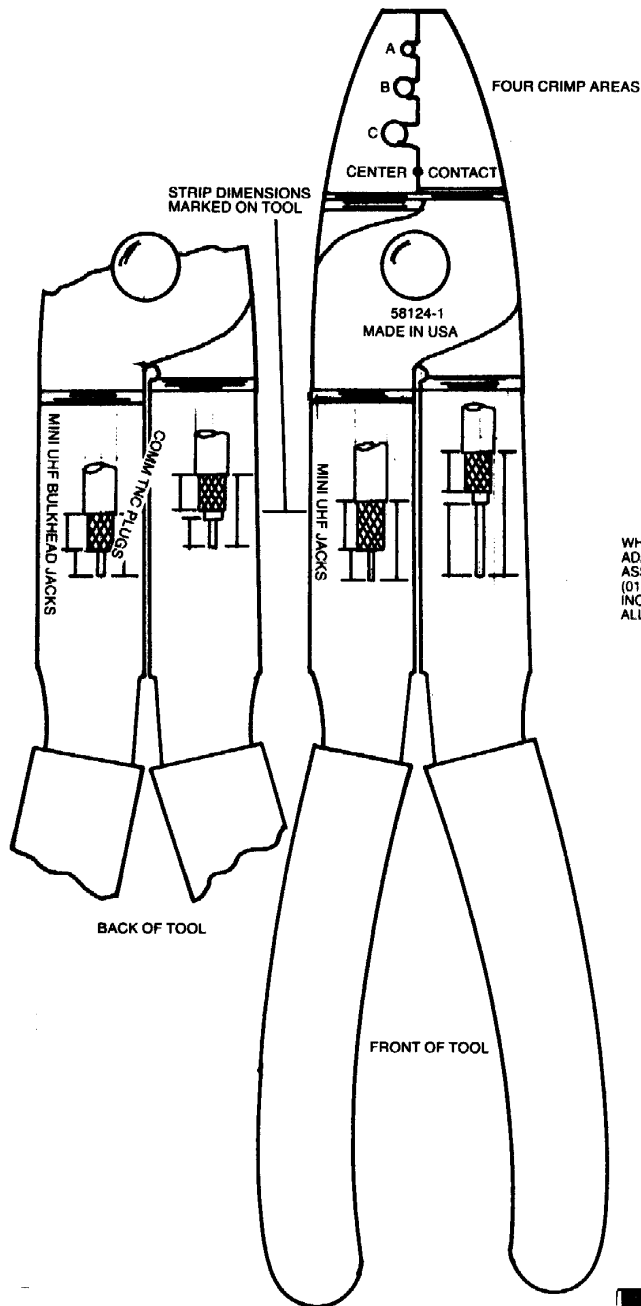
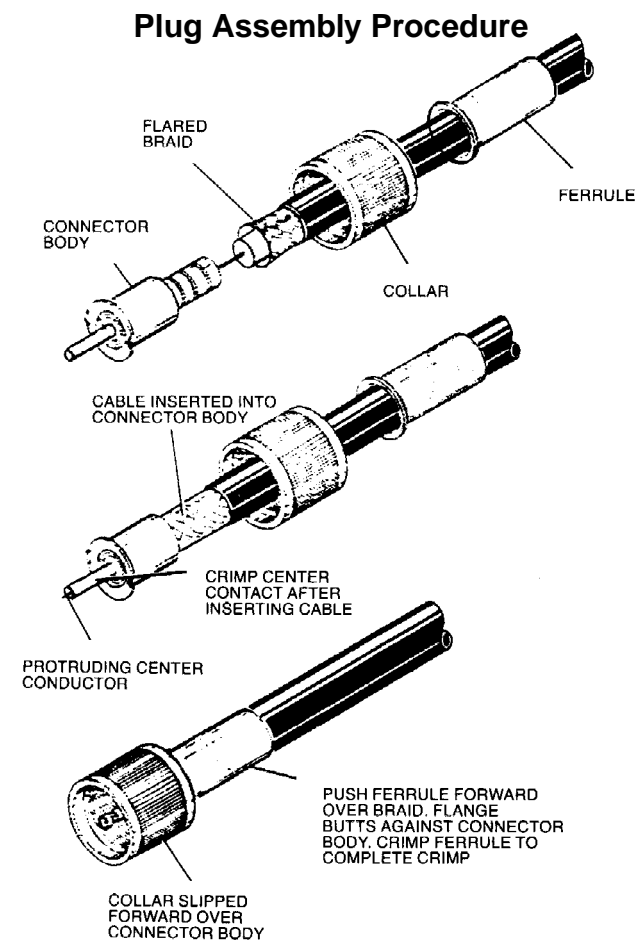

Figure 10.
Figure 12.
Use Motorola hand tool part #66-80388A26. Refer to Figure 10. A deluxe ratchet type tool is available; order part #66-80334B40.
1. Slip the ferrule and collar onto the cable. Refer to Figure 12.
3. Insert the stripped cable into the plug body until the conductor is exposed (front end) and dielectric bottoms inside body. Refer to Figure 12.
4. Crimp center contact using proper crimp section of tool. Refer to Figure 10 marked "CENTER CONTACT".
5. Push collar forward onto plug assembly. Fit cable braid over support sleeve of connector. Refer to Figure 12.
6. Push ferrule over braid until flange butts against connector body. Refer to Figure 12. Using correct crimp area of tool, crimp ferrule close to plug body. See Figure 10 crimp location "C". Crimp ferrule a second time close to cable end, using "C" crimp area of tool.